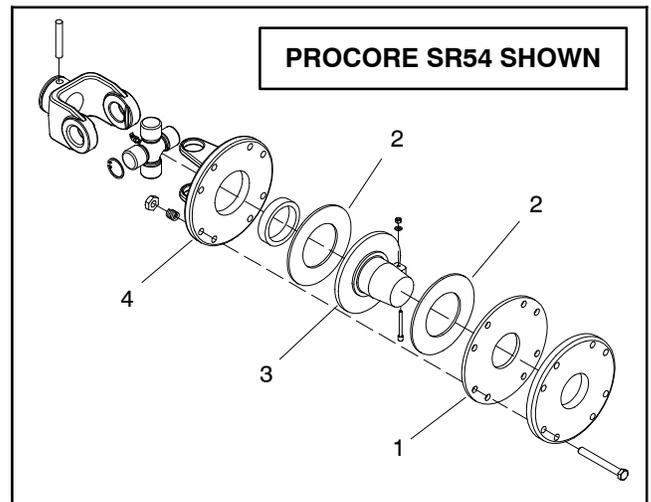

Figure 12
NOTE: The PTO driveshaft used on SR48, SR54, SR54-S, SR70 and SR70-S aerators include two (2) clutch linings and fewer driveshaft components on the aerator end of the PTO driveshaft (Fig. 12). Driveshaft clutch service for all ProCore SR models is similar.